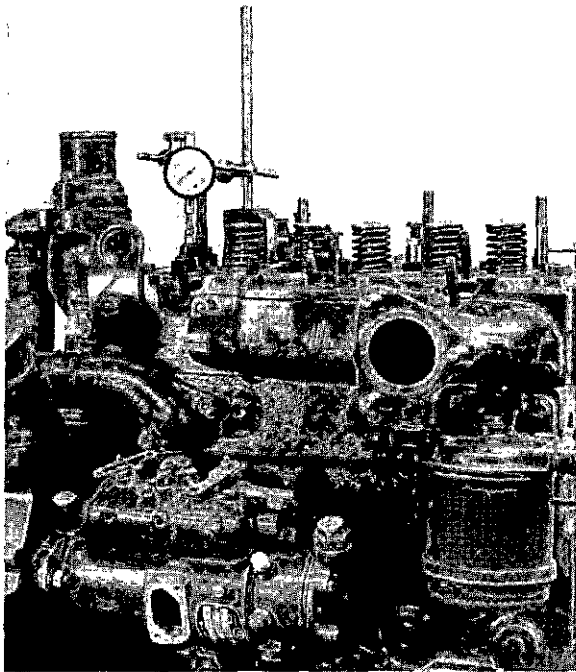

Fig. L5
3. Put a dial test indicator on the top of the valve stem (see fig. L5) and use the indicator to find the accurate No. 1 piston TDC position. Set the dial to zero.